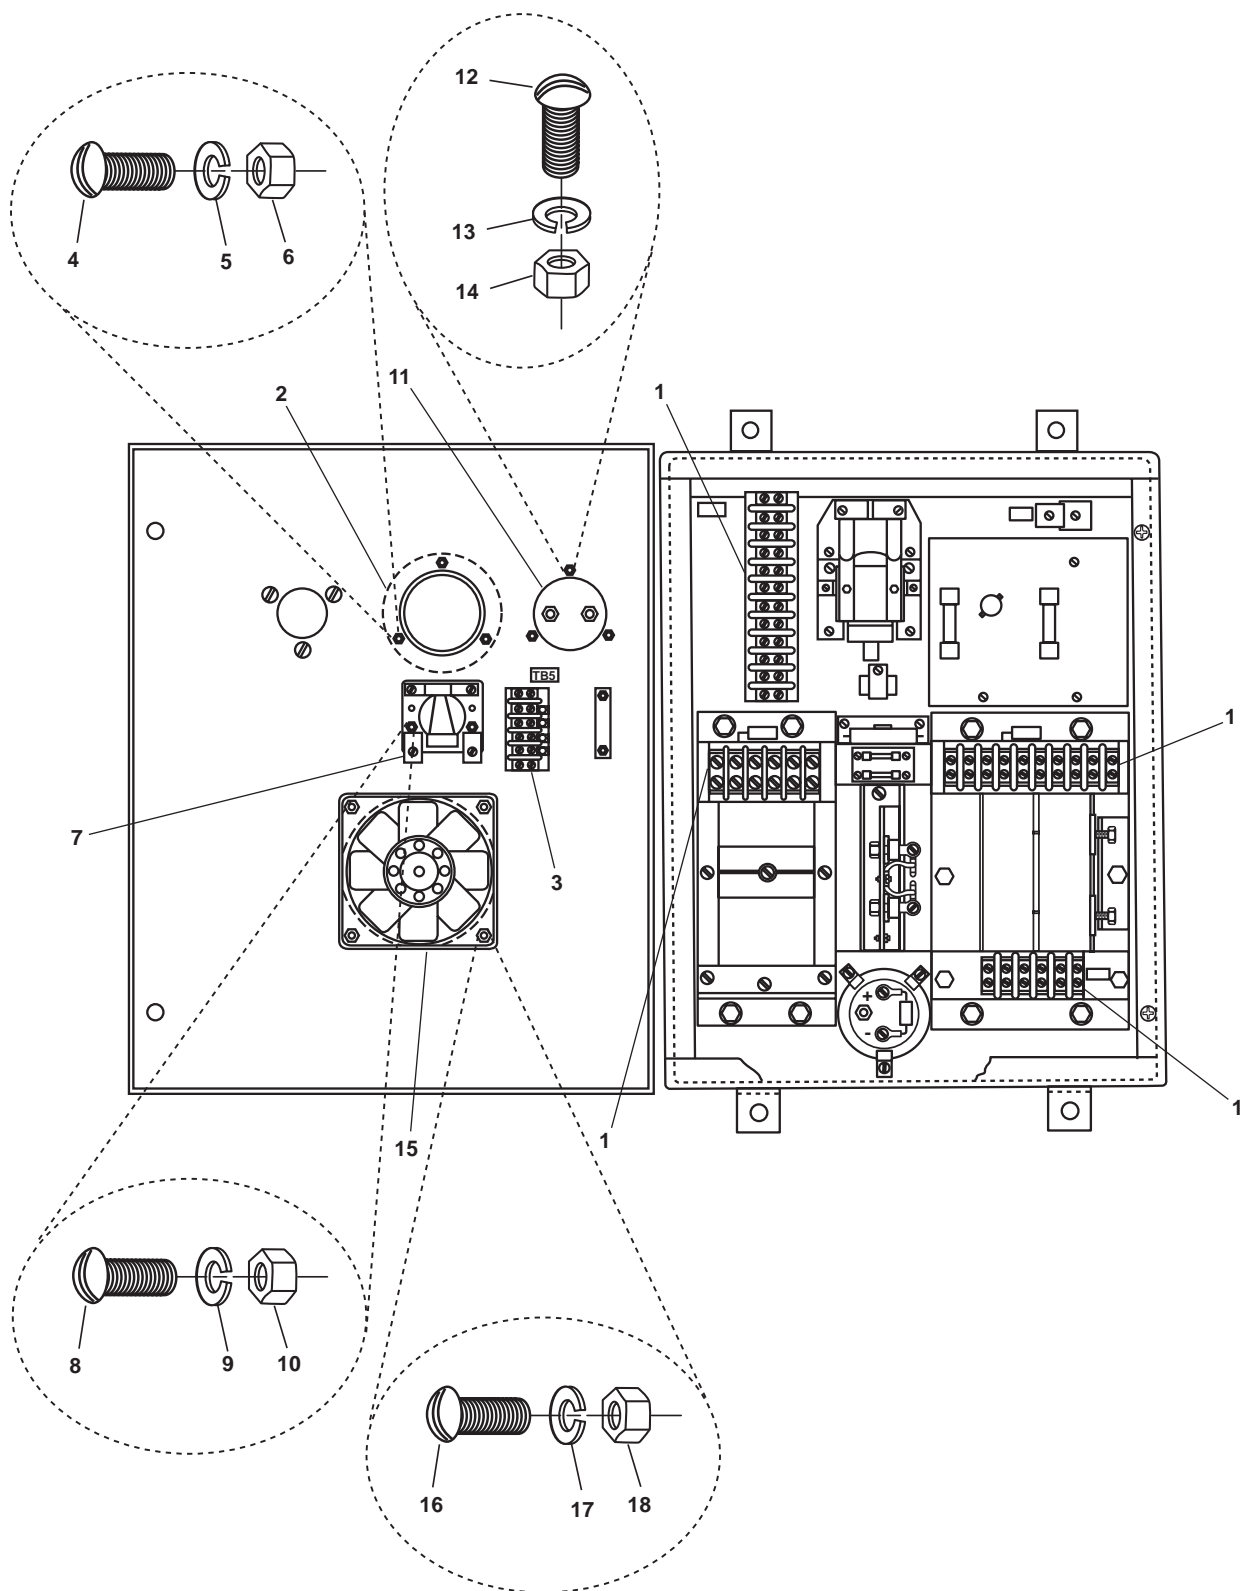

Figure 2. Searchlight Power Supply Internal Door Components
3. Use a multimeter to check for voltage at the terminal blocks (figure 2, item 1). If voltage is present, ensure that the proper circuit breaker is secured, locked out, and tagged out (FM 55-502). If no voltage is present, continue with the procedure.
4. Label and remove the wiring of the elapsed time indicator (figure 2, item 2) from terminal block 5 (figure 2, item 3).
5. Remove the three screws (figure 2, item 4), the three lockwashers (figure 2, item 5), and the three nuts (figure 2, item 6) from the elapsed time indicator (figure 2, item 2). Discard the lockwashers.
6. Remove the elapsed time indicator (figure 2, item 2) from the door (figure 1, item 2) of the power supply (figure 1, item 3).
1. Install the elapsed time indicator (figure 2, item 2) in the door (figure 1, item 2) of the power supply (figure 1, item 3).
2. Install the three screws (figure 2, item 4), three new lockwashers (figure 2, item 5), and the three nuts (figure 2, item 6) in the elapsed time indicator (figure 2, item 2).
3. Connect the wiring of the elapsed time indicator (figure 2, item 2) to terminal block 5 (figure 2, item 3) using the labels from step 4 of Removal as a guide. Remove the labels.
4. Label and remove the wiring of the R2 relay (figure 2, item 7) from terminal block 5 (figure 2, item 3).
5. Remove the two screws (figure 2, item 8), two lockwashers (figure 2, item 9), and two nuts (figure 2, item 10) from the R2 relay (figure 2, item 7). Discard the lockwashers.
6. Remove the R2 relay (figure 2, item 7) from the door (figure 1, item 2) of the power supply (figure 1, item 3).
1. Install the R2 relay (figure 2, item 7) in the door (figure 1, item 2) of the power supply (figure 1, item 3).
2. Install the two screws (figure 2, item 8), two new lockwashers (figure 2, item 9), and two nuts (figure 2, item 10) in the R2 relay (figure 2, item 7).
3. Connect the wiring of the R2 relay (figure 2, item 7) to terminal block 5 (figure 2, item 3) using the labels from step 4 of Removal as a guide. Remove the labels.